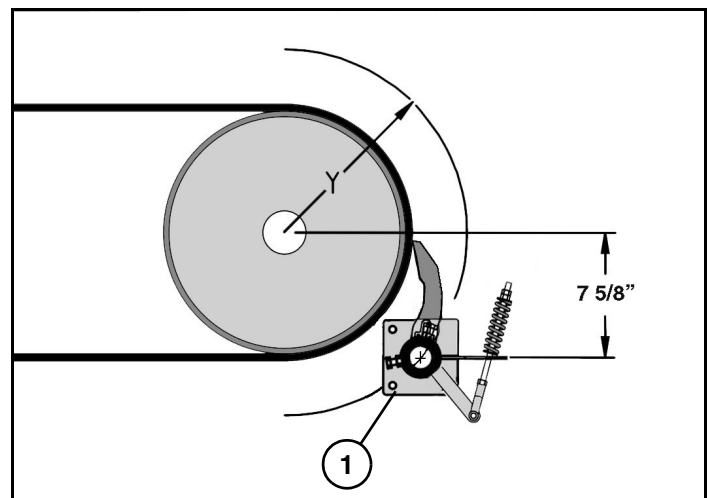

Figure 3
- The bracket (Item 1) (**Figure 3**) can be mounted in any 90 degree position. Drill the mounting holes and attach the bracket with the supplied bolts See "Exterra Belt Cleaner Mounting Bracket Template" on page 4.